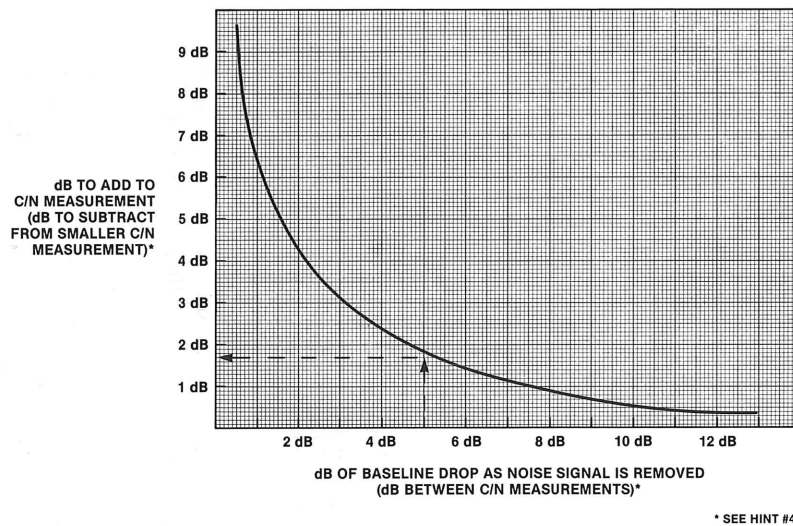

Figure 8-3. Analyzer noise floor correction chart.
9. Refer to figure 8-3. Using the number of dB the noise fell as the signal was removed, determine how many dB to add to the C/N measurement in step 7. This correction compensates for the analyzer's own noise when the difference between the measured noise and the analyzer's noise is less than 10 dB.
Referring to figure 8-3, 5 dB along the x-axis crosses the correction curve at 1.7 dB. Therefore 1.7 dB must be added to the measurement:
4. If the C/N of the headend and the distribution system have been measured separately, the two measurements can be combined with the help of figure 8-3. Note the difference in dB between the two C/N measurements. Move along the x-axis to the corresponding (difference) value in dB. Move up to the curve and subtract this value from the smaller of the two C/N measurements.
EXAMPLE: If the headend C/N is 53 dB and the distribution system C/N is 58 dB, the difference is 5 dB. Enter figure 8-3 at 5 dB and find the correction factor at 1.7 dB. The combined C/N is then 53 dB - 1.7 dB \approx 51 dB.